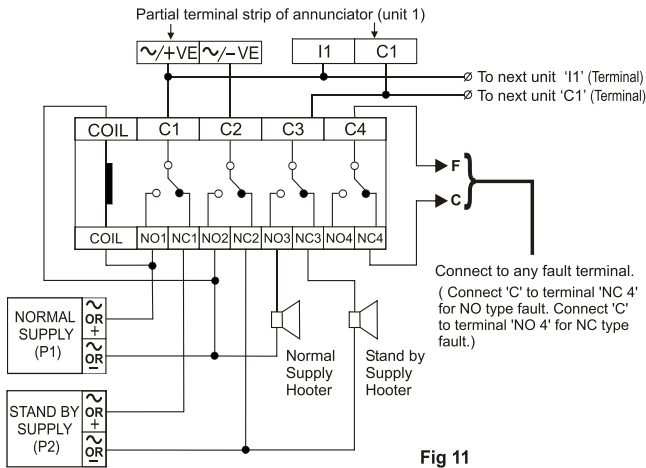

Fig 11
- d) Supply Fail Annunciation. (fig. 11).